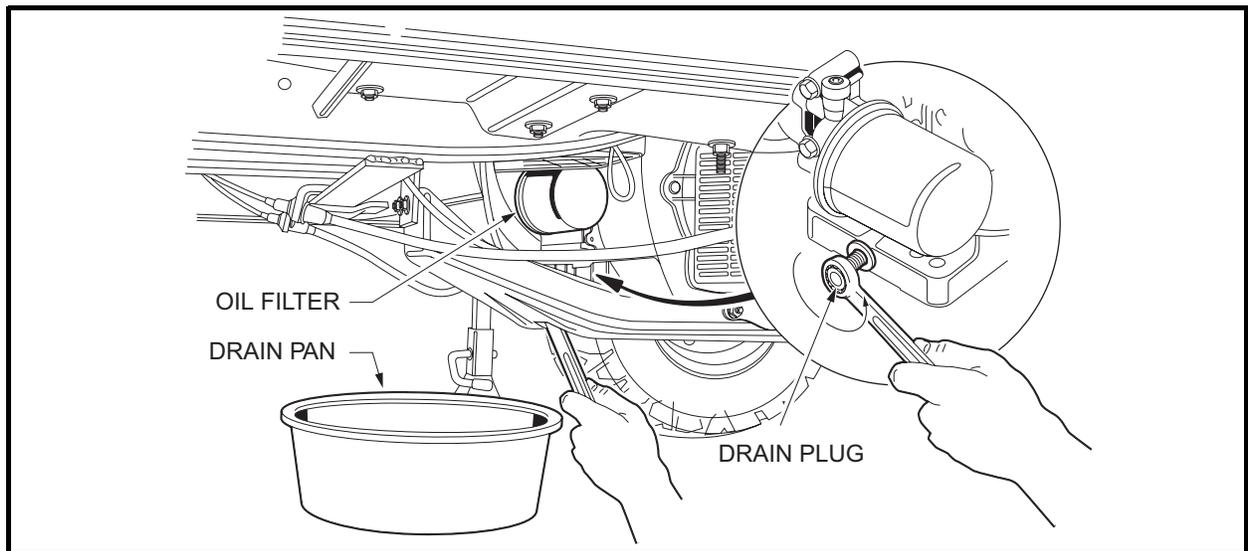

Figure 29 Engine Oil Drain Plug and Pan
4. Position a pan designed for oil changes under the front drain plug (**Figure 29**).
8. Relocate the oil drain pan to a position under the engine oil filter (**Figure 29**).